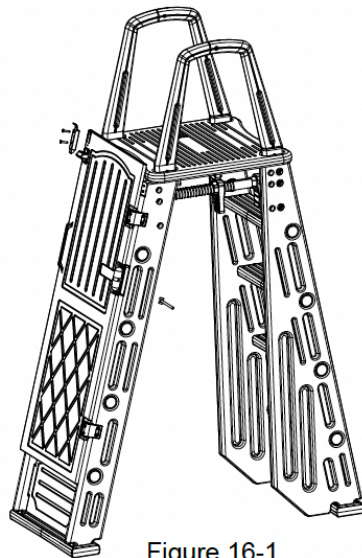

Figure 16-1
14. The gate can be set to open from either the left or right side. If opening from the left side (the side of the left outer upright post marked with «L»), secure the spring lock to the gate using two ST5.5x30 tapping screws. Select the appropriate screw hole position on the door closer body and tighten the door closer arm, ensuring sufficient closing force (see Figure 16-1). If the gate opens from the right side (the side of the right outer upright post marked with «R»), refer to Figure 16-2 for the positions of the spring lock and the door closer arm.